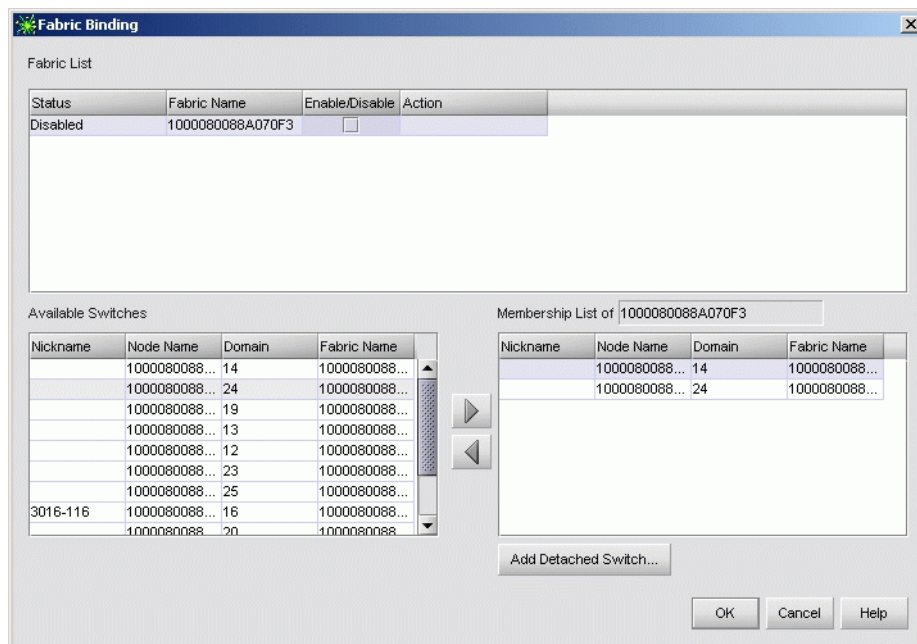

Figure 3-37 Fabric Binding Dialog Box
- a. At the SANavigator or EFCM main window, select *Fabric Binding* from the *Configure* menu. The *Fabric Binding* dialog box displays (Figure 3-37).